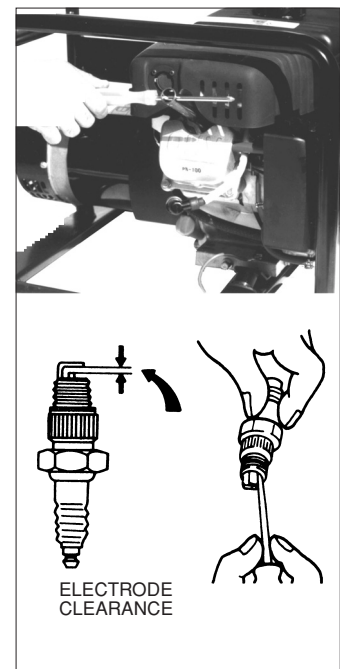

Fig. 27
5. Measure the plug gap with the feeler gauge. Correct as necessary by carefully bending the side electrode (Fig.27).